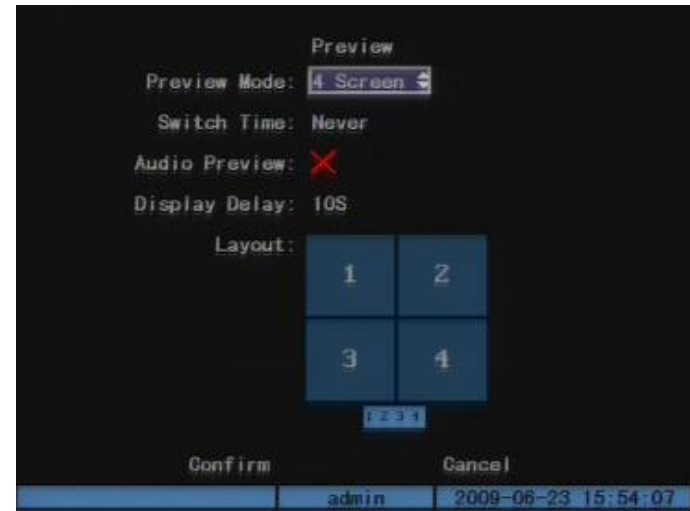

Fig.5.10
Step 1: Enter into “Preview” menu. (Fig.5.10)